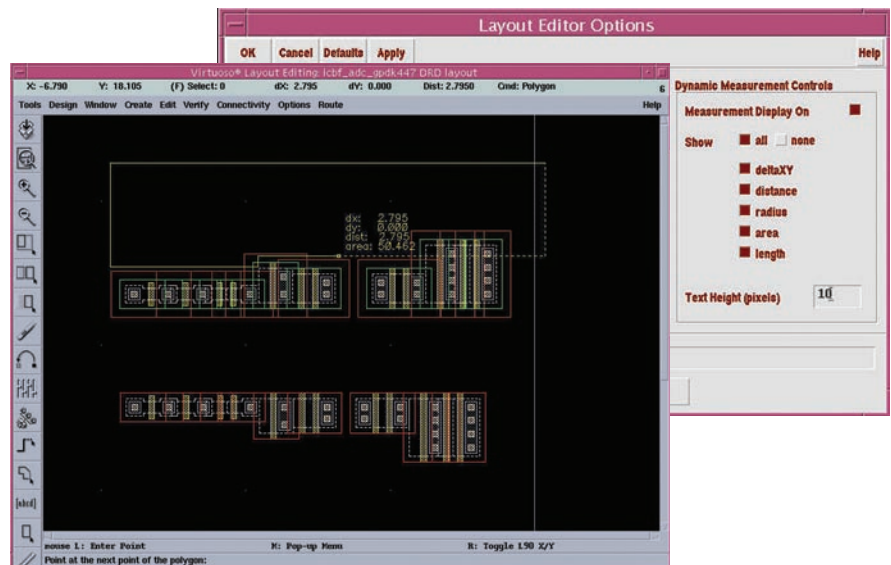

Figure 4: Dynamic measurement enables high-altitude design with speed and accuracy
- Dynamic measurement (see *Figure 4*)